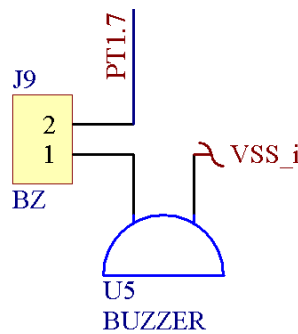

Figure 14
- ◆ J9: Buzzer JUMP that connects to PT1.7 signal, as shown in Figure 14.